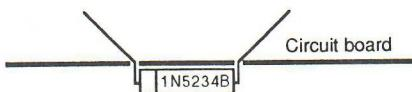

**Figure 4-12** If you ever forget which way a part goes, don't guess. Check the component side of the board. It'll be marked.
8. Stand up the computer. Bend the leads on the replacement part so that it matches the one you took out, but don't cut them to size yet. Notice that one end of the diode is striped. On CR18 and CR19 (U.S. version) that stripe goes to the top. If you ever forget which way a part goes, don't guess. Check the component side of the board. As shown in Figure 4-12, it'll be marked.